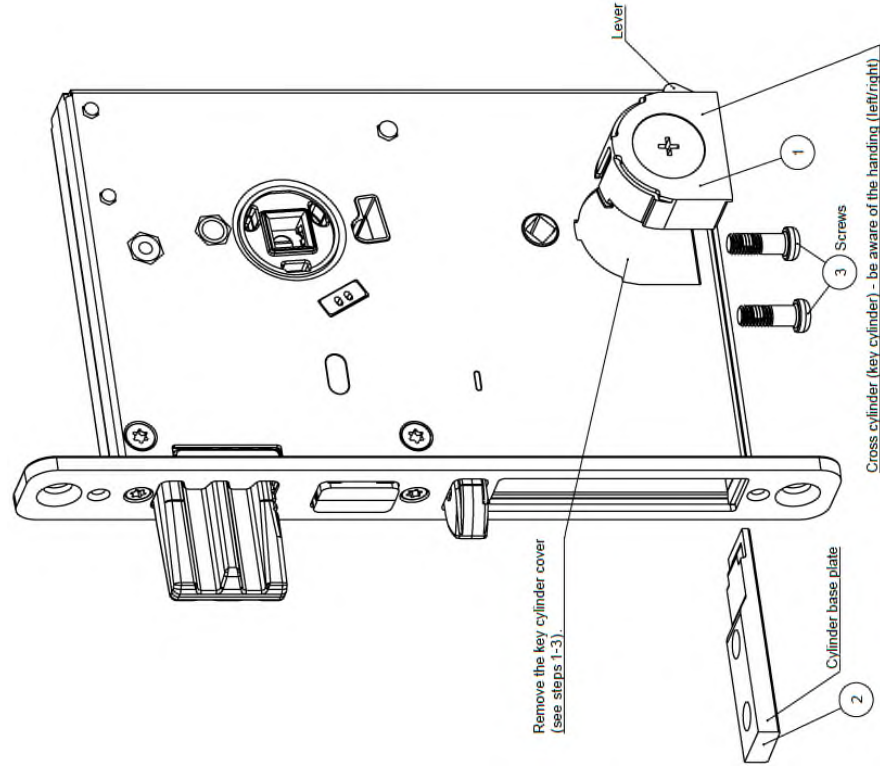

Figure 16: Key cylinder installation (position numbers refer to parts in Figure 11)
7. Secure the cylinder base plate in place with the two screws (M5 x 14 T20); see parts in Figure 16.